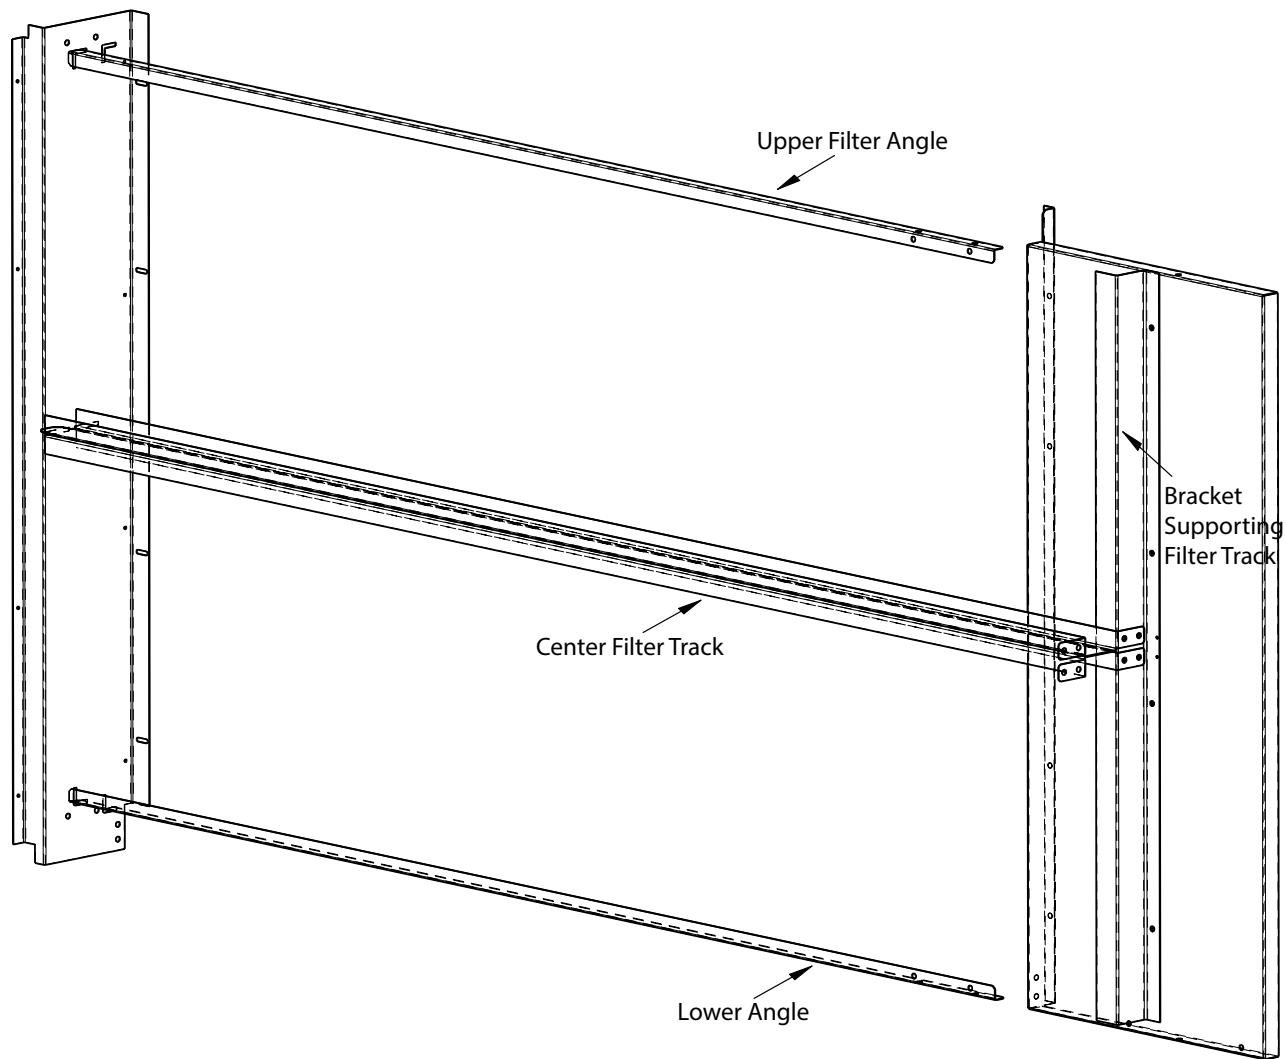

Fig. 2 — Filter Rack Shown with Hardware for 2 in. Filters (44 in. Height Unit Shown)
6. Remove upper filter angle by removing two screws holding angle in place. Reinstall angle by repositioning it in notch closest to the indoor coil in the rear support opposite filter access. (See Fig. 2 or 3.) Secure with screws previously removed.
8. Remove 2 of the 4 in. center filter tracks from kit. Place back to back and install where the two inch tracks were previously located. Engage tabs on track into slots on rear support. Secure with screws from Step 4 through the sides of each of the two filter tracks. (See Fig. 2 or 3.)